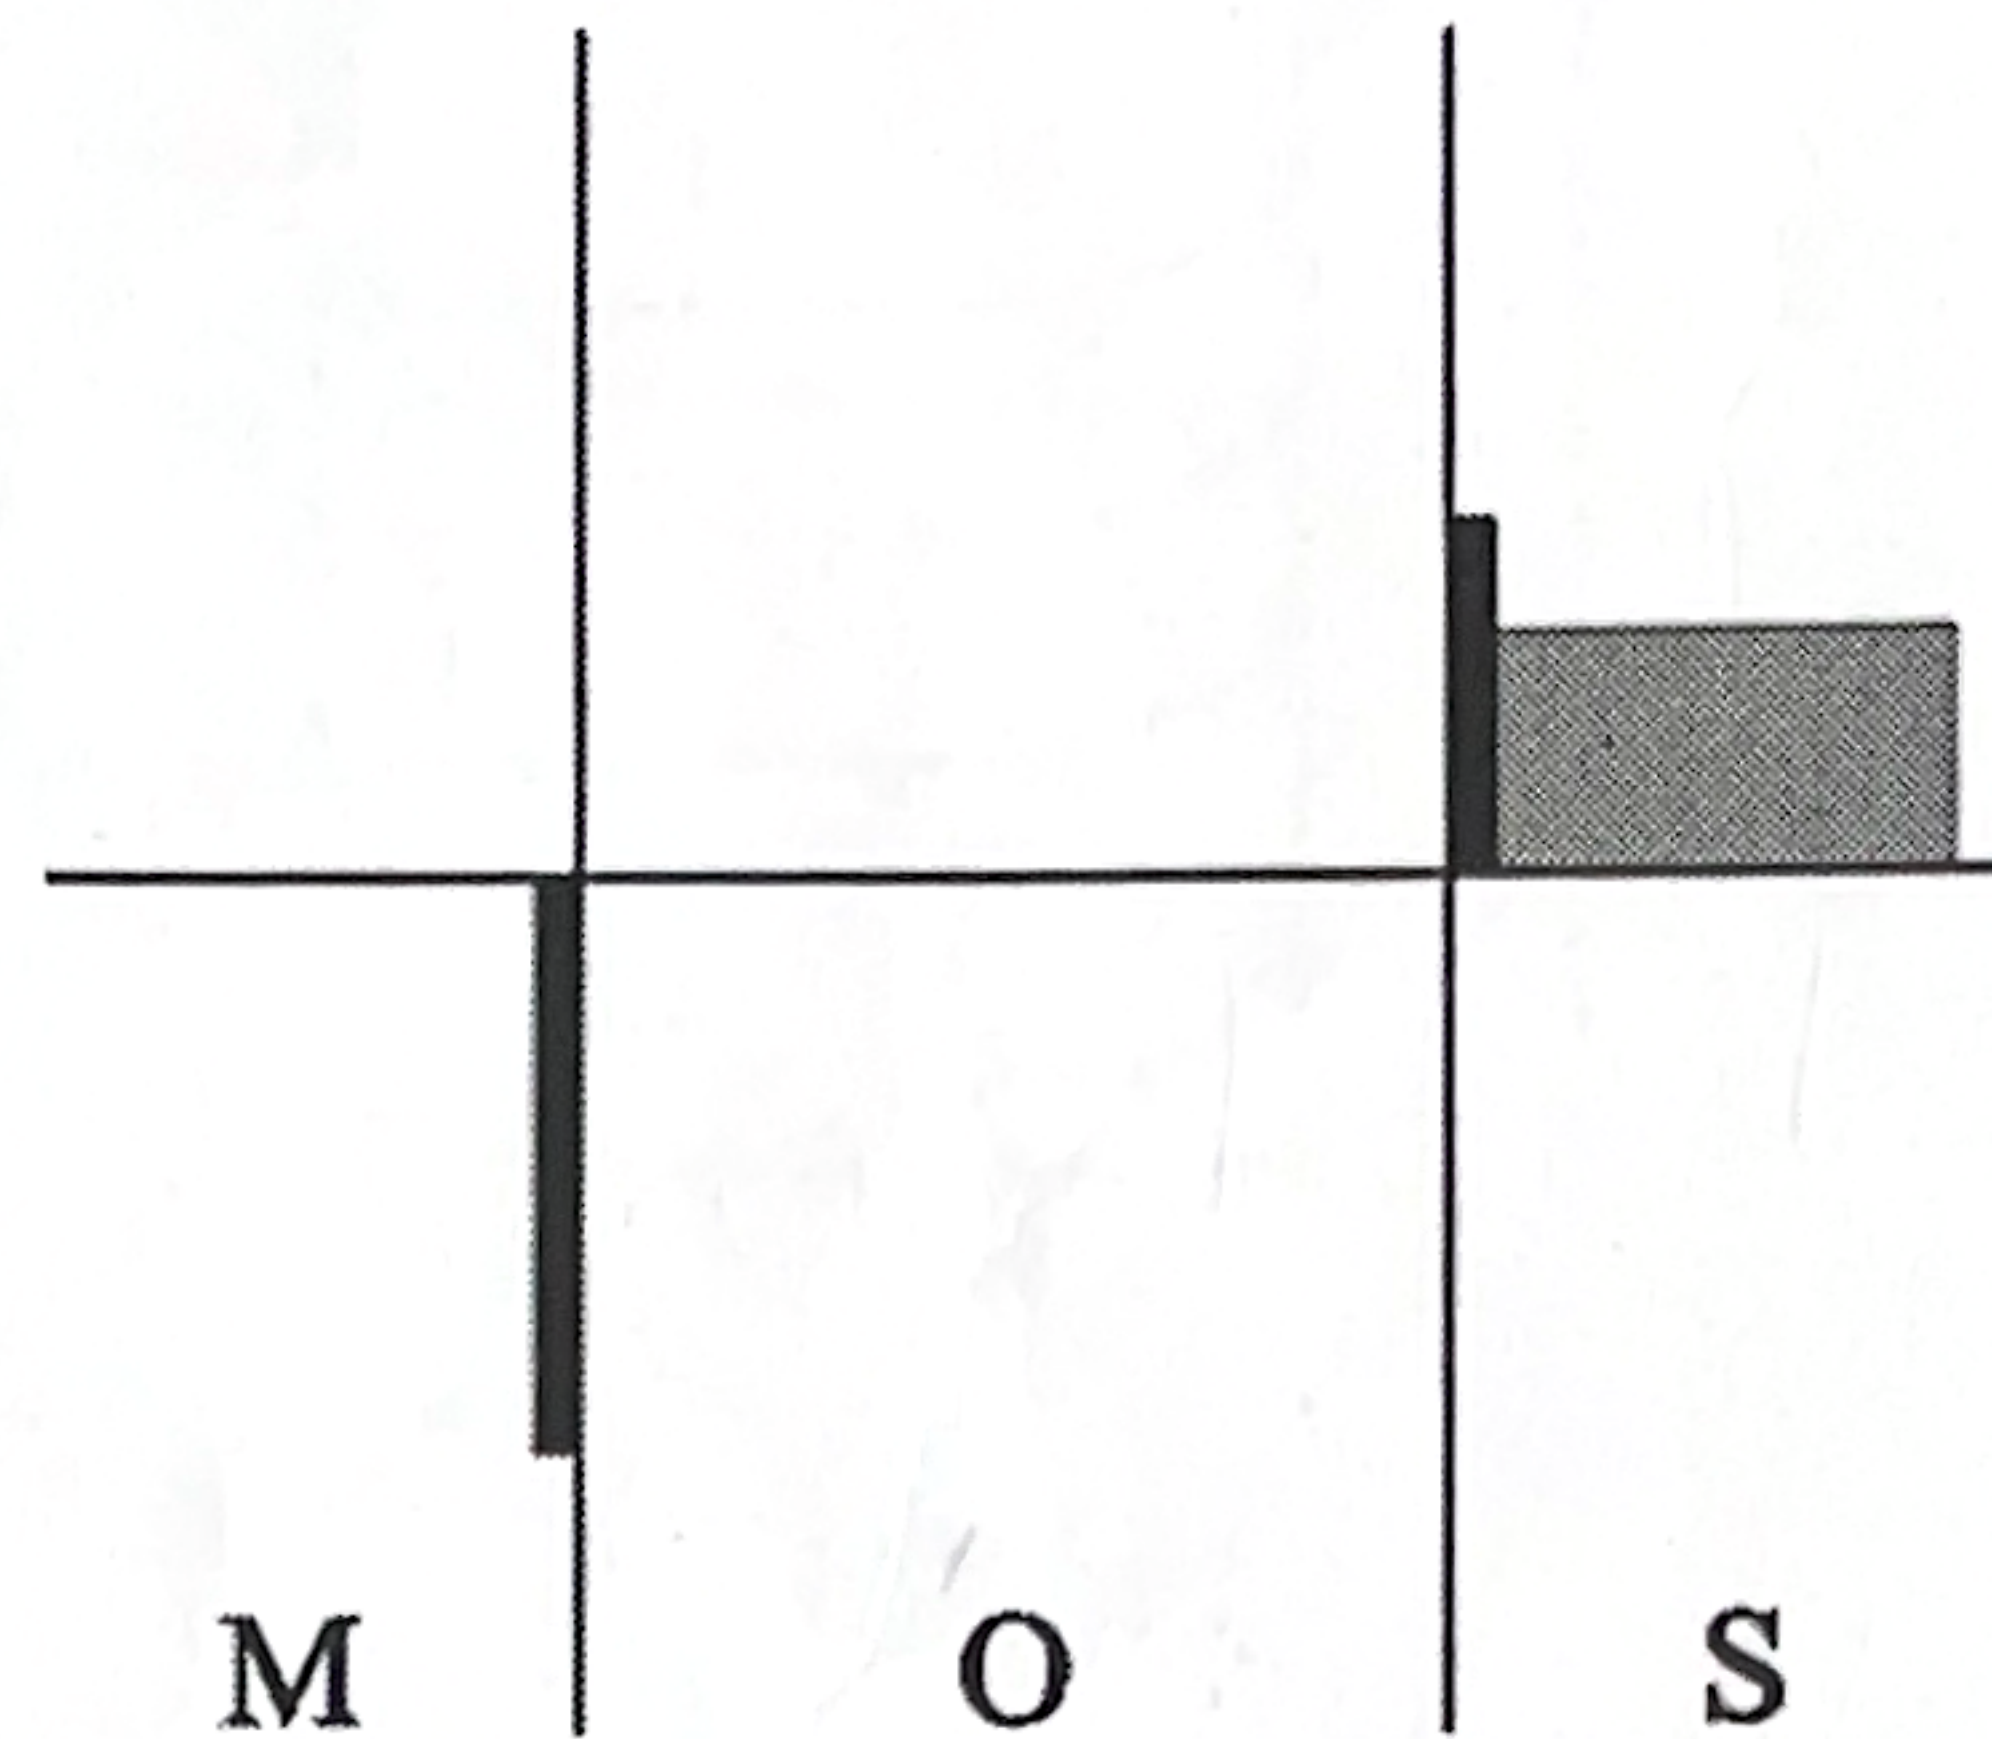

Fig. Q1
1. Fig. Q1 shows the block charge diagram of an ideal MOS capacitor. For the following questions, briefly explain how you arrive at your answer.